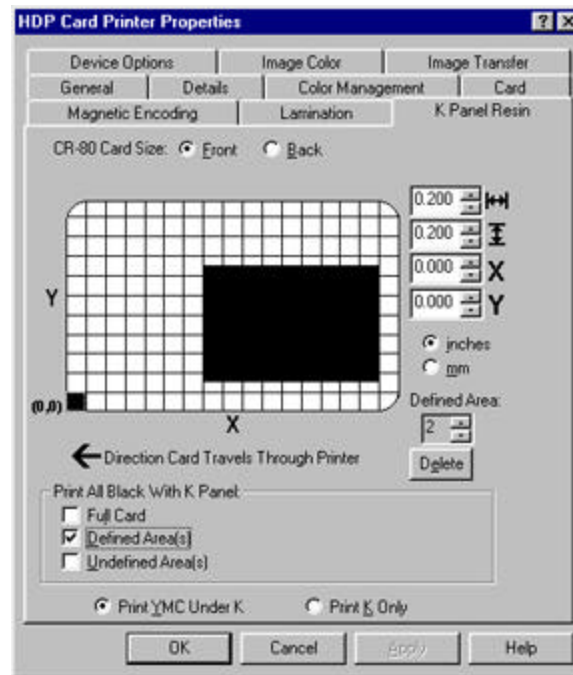

Figure 3-15
To define another area, click on the Defined Area up arrow. Another .2" x .2" (5mm x 5mm) area will appear in the lower left-hand corner. See Figure 3-15. This is the location in which all newly defined areas will first appear. Up to 5 areas can be defined. Additional areas cannot be added until the most recently created area has been moved or sized. For this reason, size and position each area as it is created. Use the Defined Area arrows to navigate back and forth from area to area. The active area will always be highlighted with a dotted outline. To delete an area, use the Defined Area arrows to select the area, and click on the Delete button. If all areas are deleted, the K Panel Resin options will automatically be deselected.
Select between the **Print YMC Under K** and **Print K Only** options. See Figure 3-15. When the **Print YMC Under K** option is selected, all black in the designated areas will print with the Yellow (Y), Magenta (M), and Cyan (C) ribbon panels directly beneath the resin black (K) panel. Select this option if printing resin black text or barcodes onto a colored background to provide a more gradual transition between the two.